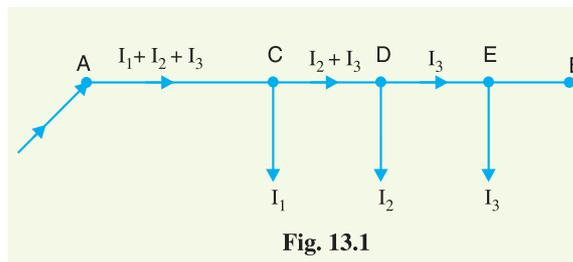

Fig. 13.1
- (i) **Distributor fed at one end.** In this type of feeding, the distributor is connected to the supply at one end and loads are taken at different points along the length of the distributor. Fig. 13.1 shows the single line diagram of a d.c. distributor  $AB$  fed at the end  $A$  (also known as *singly fed distributor*) and loads  $I_1$ ,  $I_2$  and  $I_3$  tapped off at points  $C$ ,  $D$  and  $E$  respectively.
(b) The voltage across the loads away from the feeding point goes on decreasing. Thus in Fig. 13.1, the minimum voltage occurs at the load point  $E$ .